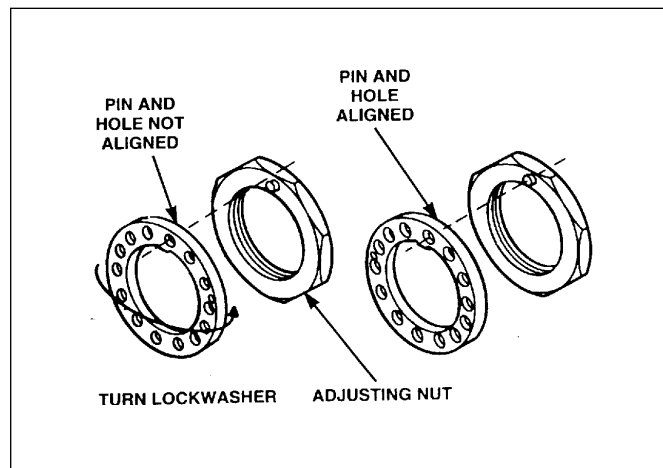

Figure 21. Align the dowel of the nut with the hole in the washer
8. If necessary, loosen the inner nut slightly to align the dowel of the nut with a hole in the washer (Figure 21).